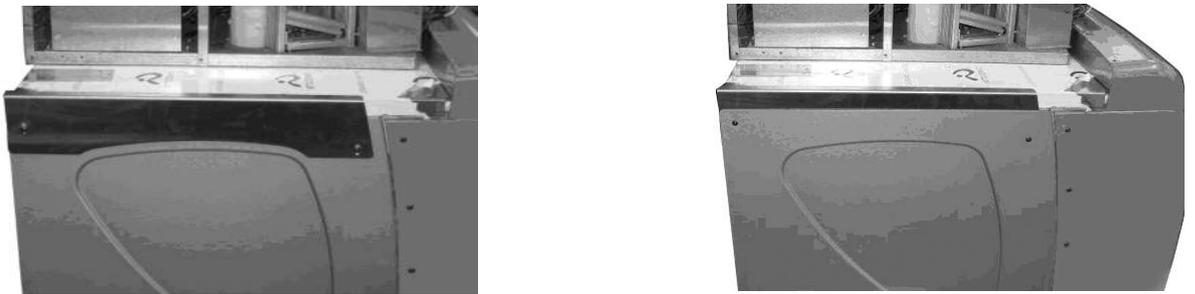

Figure 3.
3. There are two options for installing the brackets, outside of the side panels or behind the side panels, as shown in Figure 3. Left side of unit is shown in Figure 3.